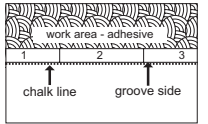

Figure 11b
- Be sure not to spread adhesive too far ahead of your work area (Figure 11b).